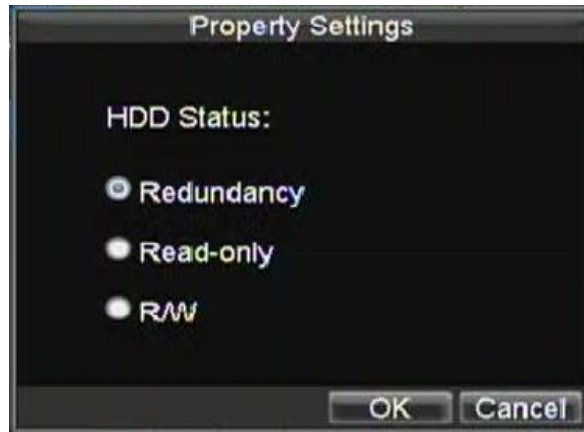

Figure 11. HDD Property Settings
5. Set **HDD Status** to Redundancy, shown in Figure 11. Verify at least one other HDD is set to R/W (read/write).